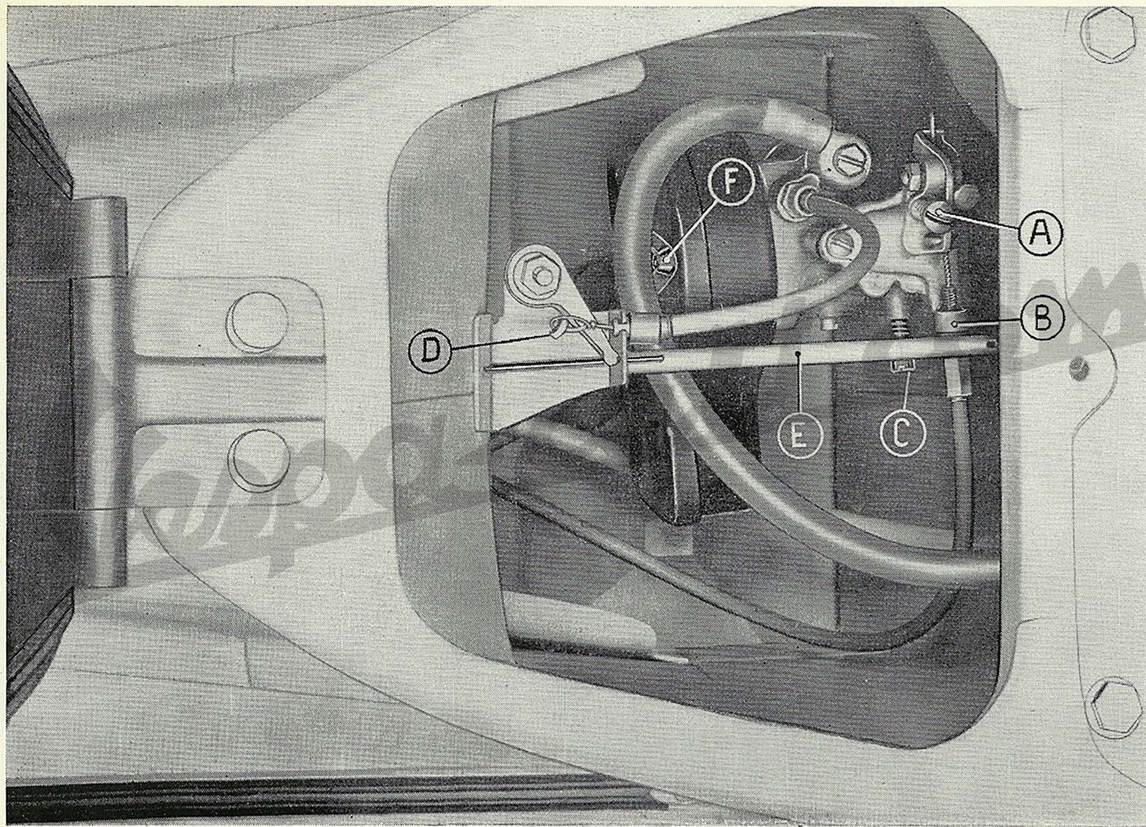

Fig. 12 - To approach the carburettor and air cleaner assy. (For the details indicated on the figure, see pag. 16 - 18).
- On the carburettor body a set screw (« B » fig. 12) is provided for adjusting the throttle cable play; this screw is to be reset **only if necessary** or on dismantling and reassembly operations.
- On the air cleaner case, there is a spring loaded screw for adjusting the volume of mixture from idling jet (fig. 9, n. 3 and fig. 12, « C »).